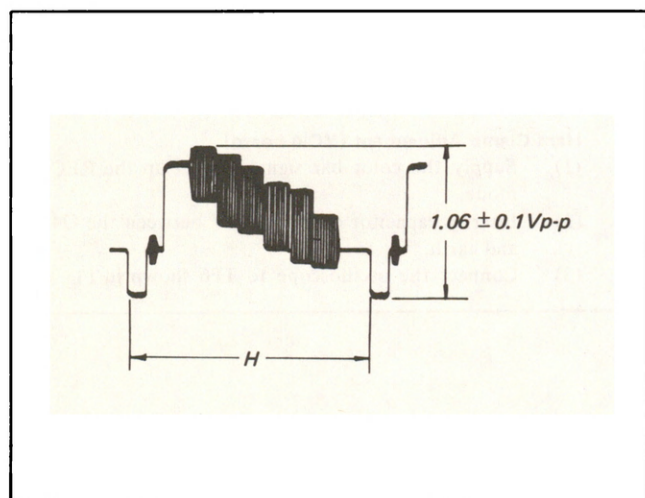

Fig. 4-31. AGC adjustment
- (5) Adjust RV18 for $1.06 \pm 0.1 \text{ Vp-p}$. (See Fig. 4-31.)
- (4) Connect the oscilloscope to pin 24 of IC1.
- (5) Adjust RV18 for 1.06 ± 0.1 Vp-p. (See Fig. 4-31.)